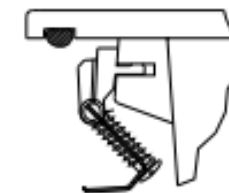

Fig.1
6. Apply a generous continuous bead of silicone into the channel around the underside of the perimeter of the sink (fig. 1).